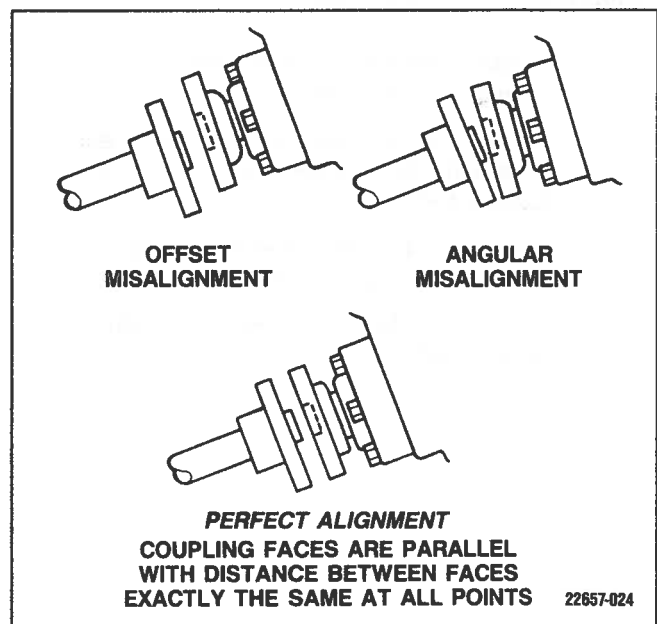

Figure 2-5. Coupling Face Alignment
3. Check that the coupling flange centerlines align by butting the propeller shaft coupling against the transmission flange (see Figure 2-5). The shoulder on the propeller shaft coupling face should engage the recess on the transmission flange with no resistance.